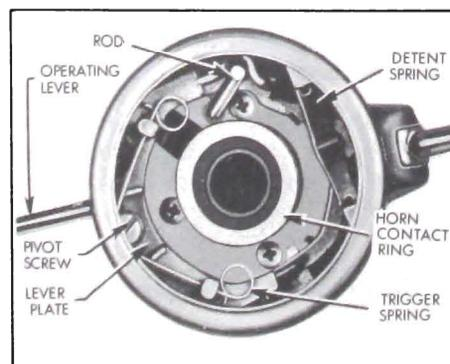
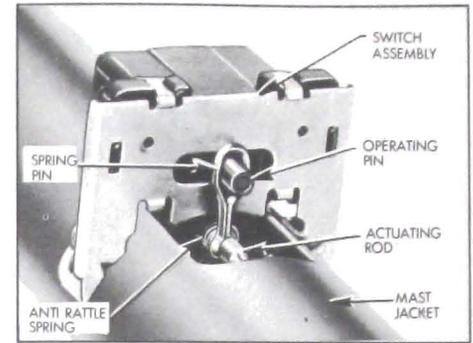

Figure 10-70—Top View of Direction Signal Switch Actuator
Figure 10-71—Directional Signal Switch Installation - Bottom View
The upper end of the actuating rod is crank shaped and fits in a slot in the lever plate. See Figure 10-70. The lower end of rod is attached to the signal switch by a spring pin which is installed around switch operating pin and through hole in rod. An anti-rattle spring located on rod between spring pin and the positioning tab which is part of mast jacket, holds the rod in place. See Figure 10-71.
The trip or cancellation mechanism for returning the switch to the "off" position after a turn is completed consists of a trigger spring on the lever plate and a switch cancelling pin on the steering wheel hub. See Figure 10-70. The pin extends down through the lever plate, but when the switch is in the "off" position the lever plate is centered so that the pin cannot contact the trigger spring as the steering wheel is turned.
Also check to see if the spring pin that retains actuating rod to switch pin is properly installed or broken. See Figure 10-71.
2. Loosen two switch mounting screws and move switch sideways on mast jacket until pin projecting from switch is centered. See Figure 10-71. Tighten switch mounting screws.